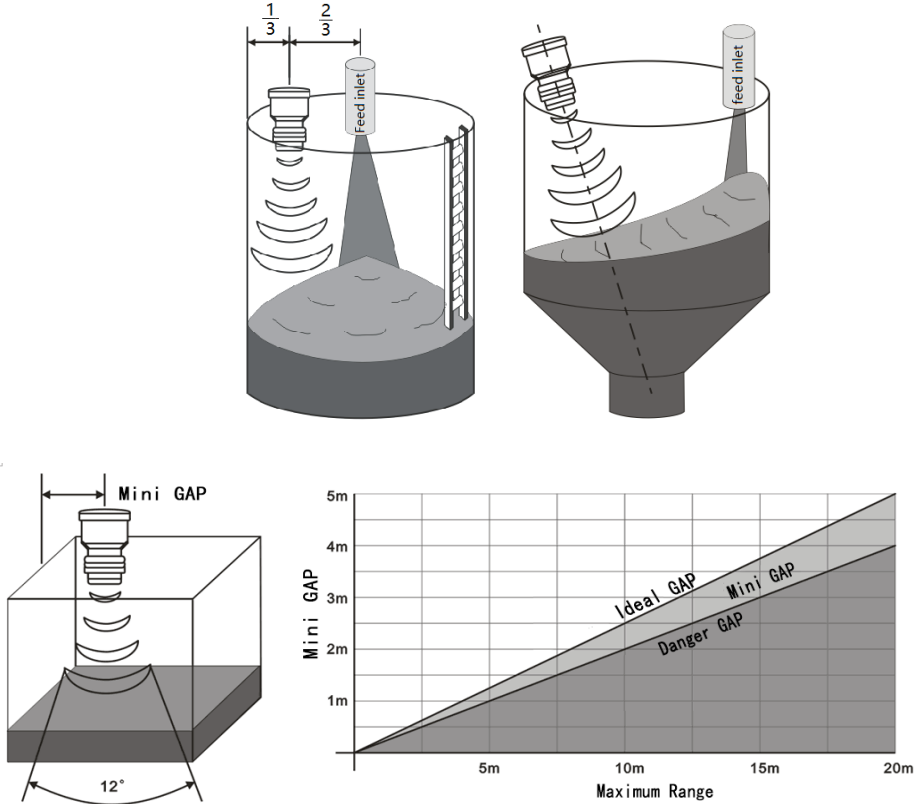

Figure 4.
- The distance from the probe to the container wall should be maintained within the ideal area as shown in the figure. Figure 4 shows the area between the measuring range and the probe installation distance from the container wall. If the installation distance is less than the distance specified by the lower line of the ideal gap, the probe should be installed within the "mini Gap" area. If the installation distance from the side wall is still below the "mini Gap" line, the transmitter may not measure the level correctly. See **Figure 4**.